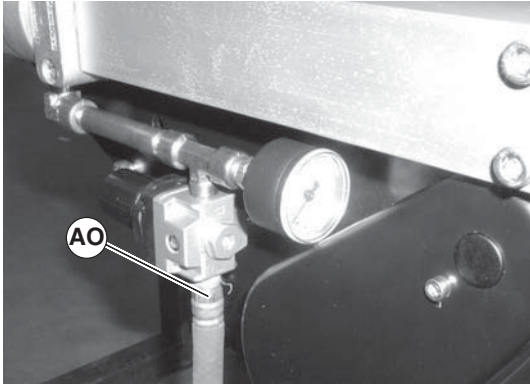

Figure 44
1. Remove air supply and remove hose (Figure 44, item AO) from center drive.